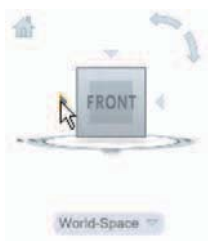

Fig. 16.10 Set screen to the ViewCube/Front view
2. Set the screen to the **ViewCube/Front** view (Fig. 16.10).